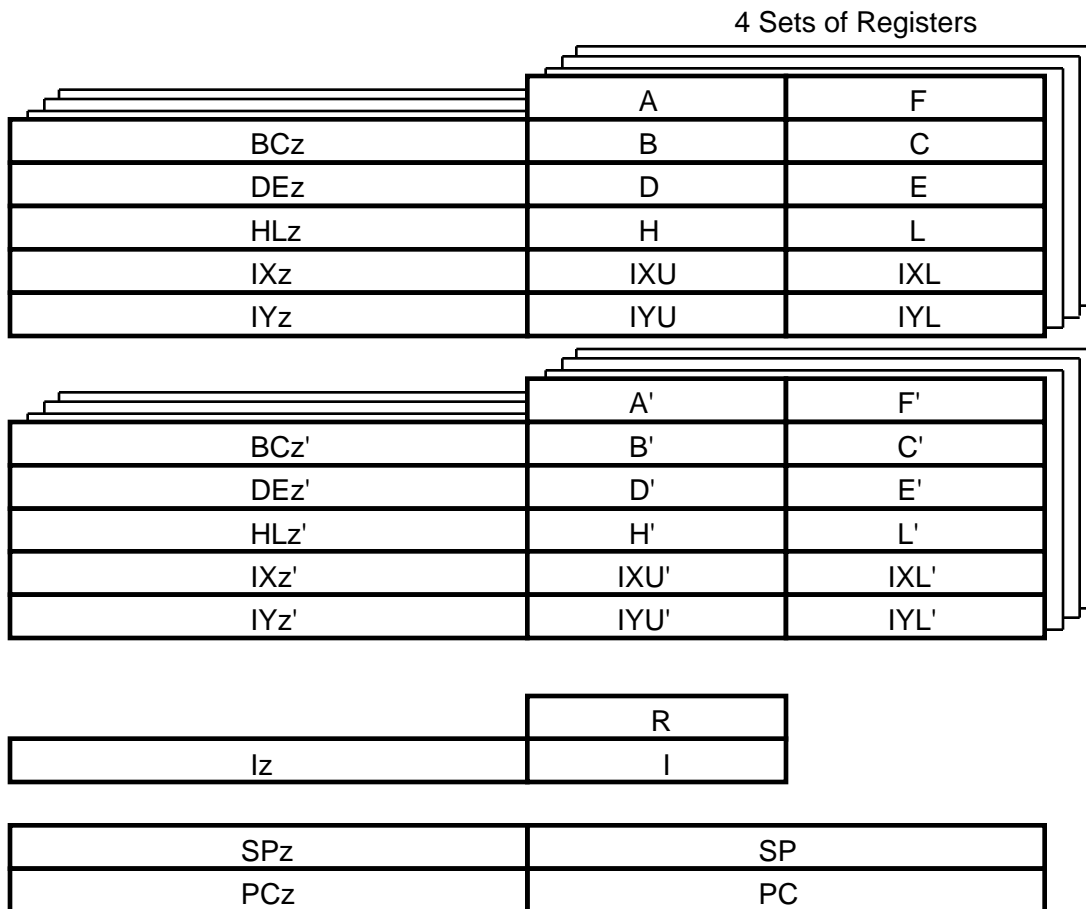

Figure 21. Register Set
The CPU register space is shown in Figure 21 and consists of all of the registers in the CPU register file. These CPU registers are used for data and address manipulation, and are an extension of the Z80 CPU register set, with four sets of this extended Z80 CPU register set present in the Z380 CPU. Access to these registers is specified in the instruction, with the active register set selected by bits in the Select Register (SR) in the CPU control register space.
The Z380 CPU contains abundant register resources (Figure 21). At any given time, the program has immediate access to both the primary and alternate registers in the selected register set. Changing register sets is a simple matter of a LDCTL instruction.